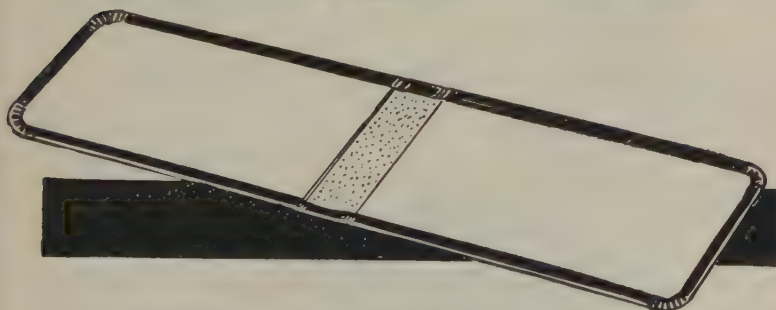

FIG. 242—COMPLETELY MADE COVER WITH SIDES AND CORNERS TURNED-IN
13. Glue or paste-off the turn-ins all around cover and carefully turn-in cover, making the usual "picked-in" round corners. Draw material snug and uniformly all around. Lay sheet of board over entire cover, press until dry, remove gauge strip and your cover is made. (Fig. 242.)